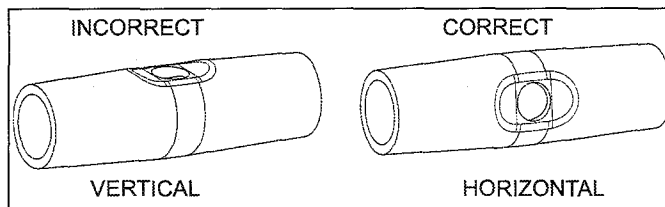

FIGURE 1: Tapped Gas Pipe Nipple
Manifold gas pressure may be measured by two different procedures. It may be measured with the burner box cover in place or it may be measured with the burner box cover removed. Follow the appropriate section in the instructions below. Refer to Figure 1 or 2 for a drawing of the locations of the pressure ports on the gas valve.
Inlet and manifold gas pressure may be measured by connecting the "U" tube manometer to the gas valve with a piece of tubing. Follow the appropriate section in the instructions below. Refer to Figure 1 for a drawing of the locations of the pressure ports on the gas valve.
Connect the positive side of the manometer to the IN P Tap on the gas valve. Do not connect any tubing to the negative side of the manometer, as it will reference atmospheric pressure. Refer to Figure 1 for connection details.
1. Refer to Figure 1 for location of pressure regulator adjustment cap and adjustment screws on main gas valve.
1. Refer to Figure 1 or 2 for location of pressure regulator adjustment cap and adjustment screw on main gas valve.